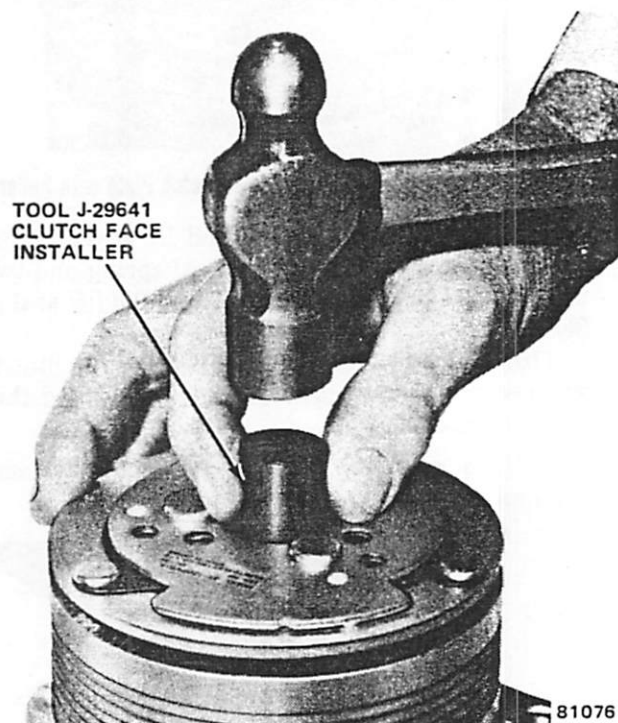

Fig. 3E-26 Front Plate Installation
(14) Coat O-ring with clean refrigerant oil and carefully place in seal groove with O-ring Hook J-9553-01.
(15) Coat seal retainer with clean refrigerant oil and install with Seal Retainer Tongs J-9393-2. Press retainer lightly against seal.
(16) Install snap ring with beveled edge outward (away) from compressor.
(17) Install clutch spacer shims.
(18) Tap new felt ring into place and install compressor shaft key.
(19) Align front plate keyway to compressor shaft key.
(20) Using Clutch Face Installer J-29641 (fig. 3E-26), tap front plate to shaft until it has bottomed on clutch shims.